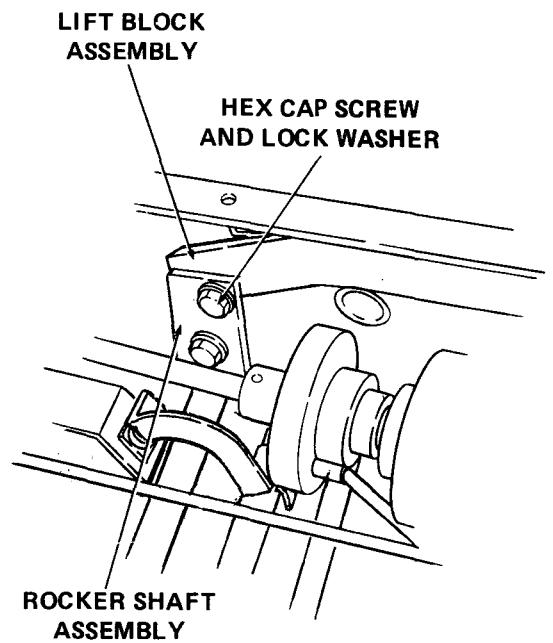

Figure B-14
- 4. Connect front end of implement lift bar (2) as follows (applies to Model 388 only).
- a. Align holes in lift block assembly with rocker shaft assembly and secure with two hex cap screws (M) and lock washers (B). Refer to Figure B-14.